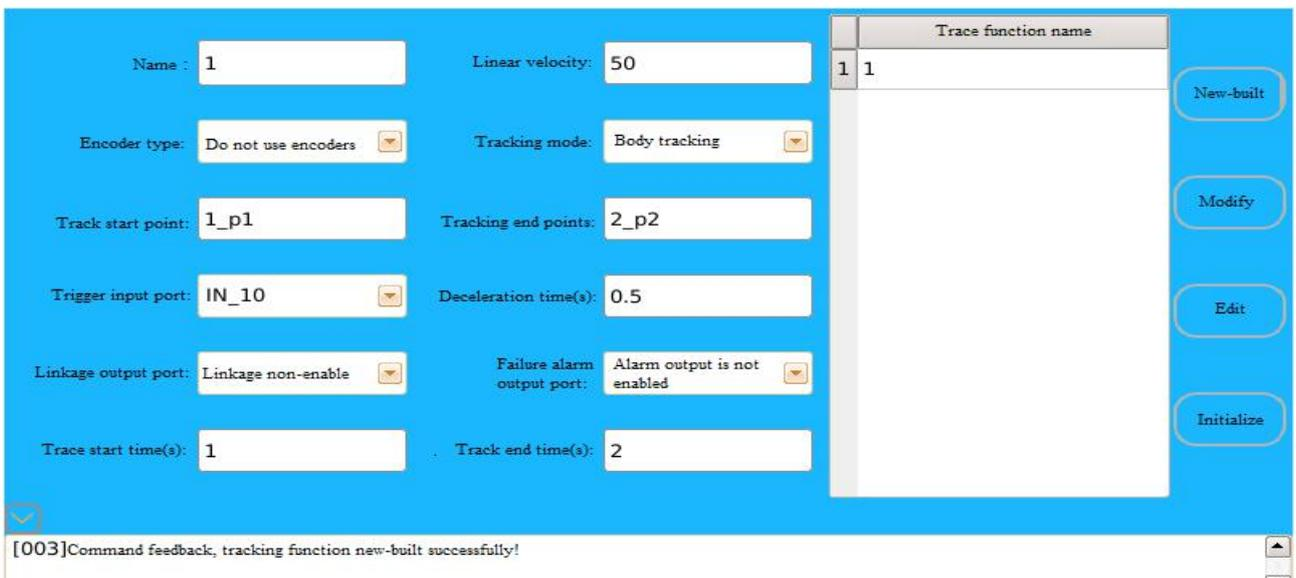

Fig. 6.6 Tracking Function Successfully Created
(1) New-build: After setting the parameters of the tracking procedure, click “New-build” to complete saving of the tracking procedure, and save it under the name of the tracking function. As shown in Fig. 6.6, the tracking function procedure name is “1”, that is, the successfully created “Tracking procedure”.